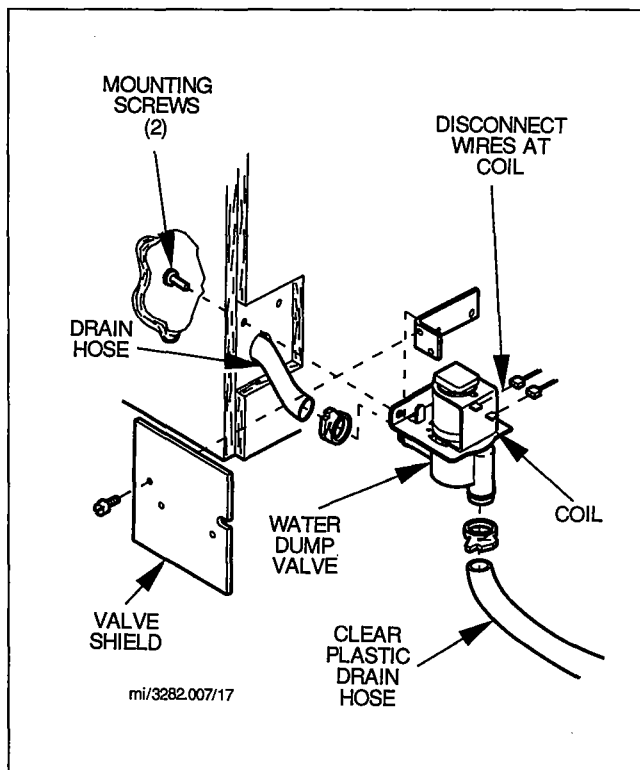

FIGURE 17. WATER DUMP VALVE REMOVAL
3. Check clear plastic outlet drain hose of dump valve, Figure 17, for leakage while the ice machine is in the freeze mode.
## Remove Water Dump Valve (Figure 17)